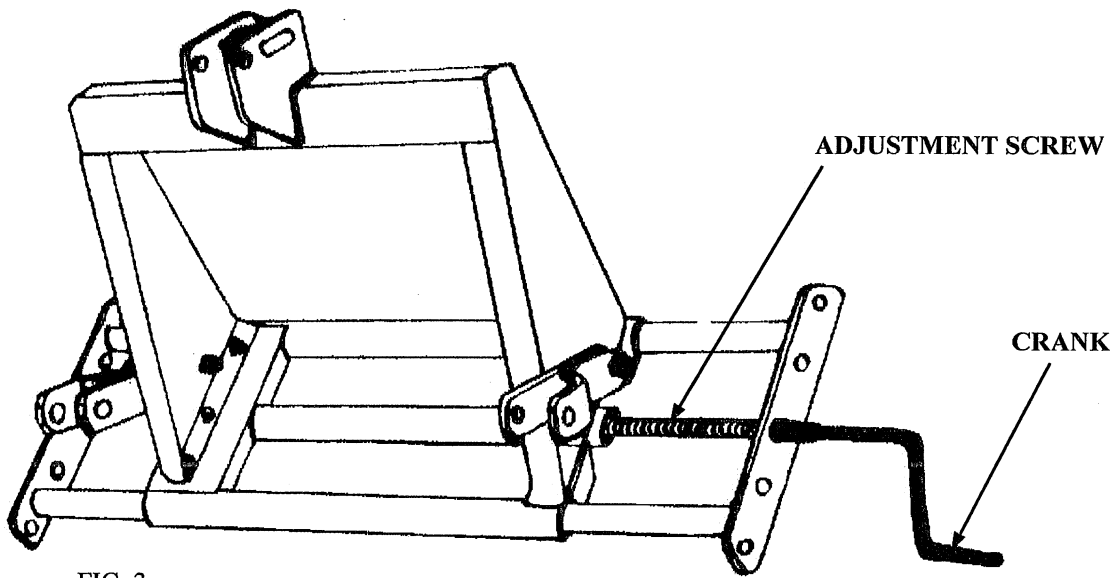

FIG. 3
- Rotate the crank of the adjustment screw until you have reached the working position needed (see fig. 3);